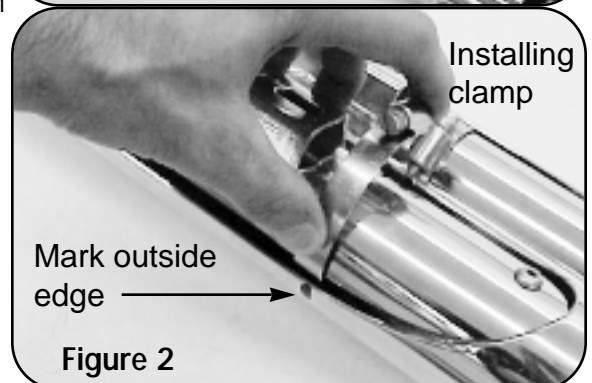

Figure 2
3. Install each hose clamp by feeding tail end of clamps into heat shield clips. Take note of location of clamp screw head direction. (Figure 2 & 3) (screw head must be accessible when system is installed on motorcycle for adjustment purposes). Align end tips evenly and tighten hose clamps.